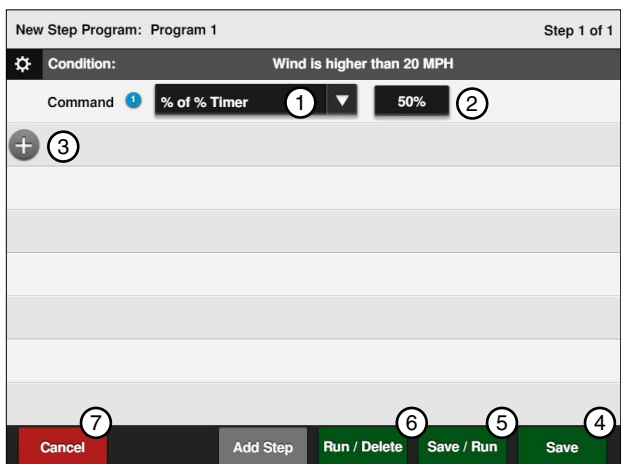

Figure 116-2 1. % of % Timer Command
5. Finish the program by selecting one of the following. Refer to Figure 116-2.